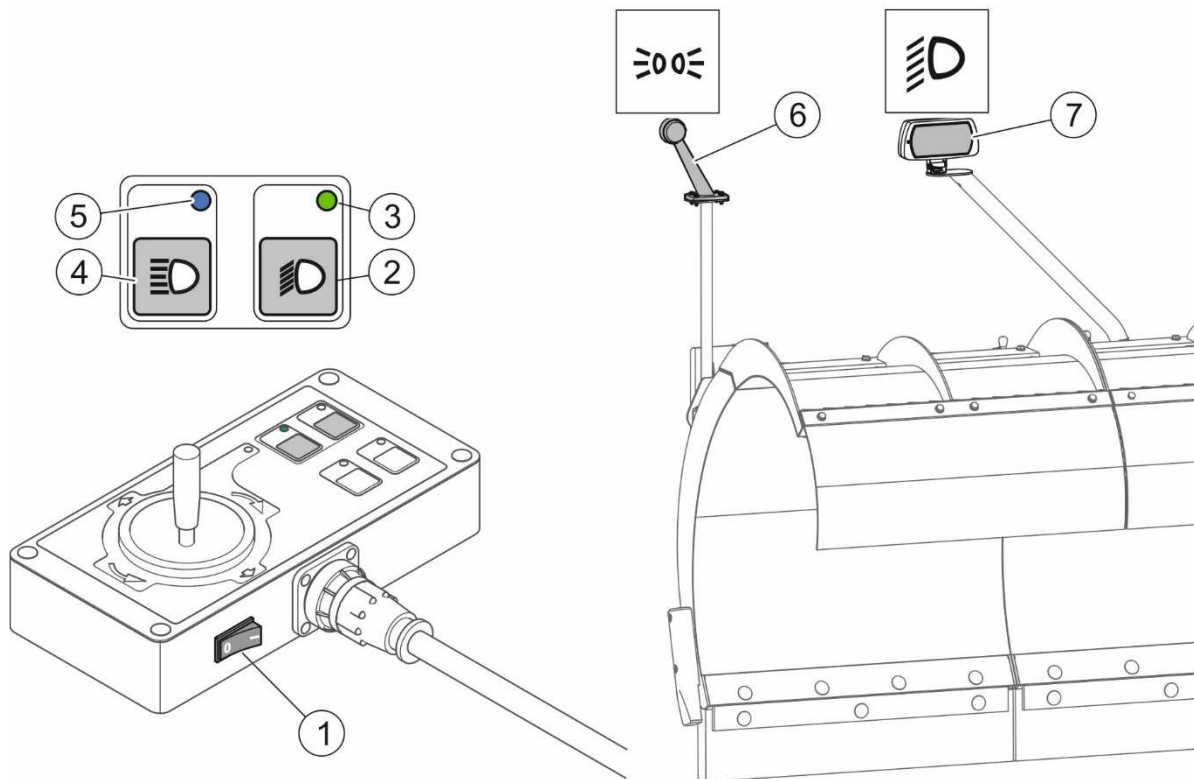

FIGURE 4.15 Switching the lights on. (the snowplough equipped with the hydraulic system with 1 pair of quick couplers or its own Power-Pack hydraulic supply
(1) - main switch of control panel and clearance lights; (2) – low beams switch; (3) - low beams ON indicator light; (4) – high beams switch; (5) - high beams ON indicator light; (6) – clearance light lamp; (7) – additional light lamp (low beams and high beams) (option).
In the snowplough equipped with the hydraulic system with 1 pair of quick couplers or its own Power-Pack hydraulic supply system, clearance lamps (6) (FIGURE 4.15) are switched on when the control panel is activated by means of the main switch (1).
Working height adjustment (FIGURE 4.15) in ploughs equipped with Kuper slides is carried out by proper setting of slides height. Slides height is adjusted with the use of 10 mm-high